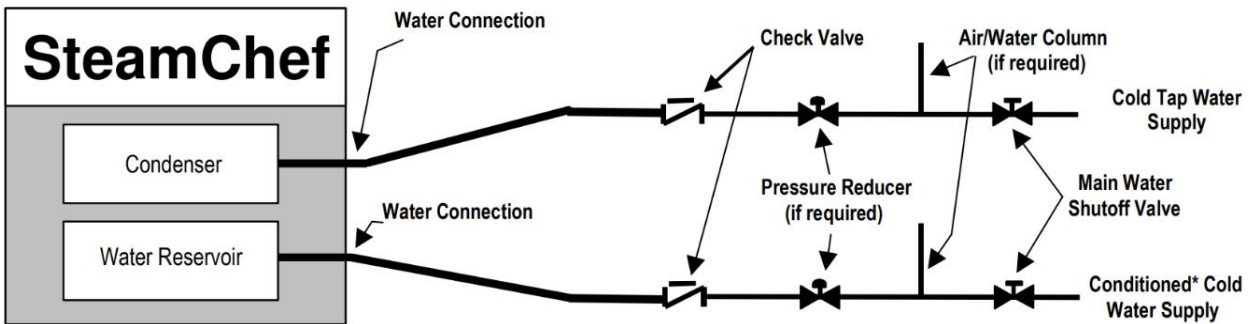

Figure 3-11 Cleveland Range Separate Water Supply Arrangement when Using Separate Conditioned* Feed Water Supply
- h) Although 22CET's are very tolerant of hard water, the owner may want to use conditioned water to supply the reservoir. To use a separate conditioned water supply, use the layout shown in Figure 3-11.